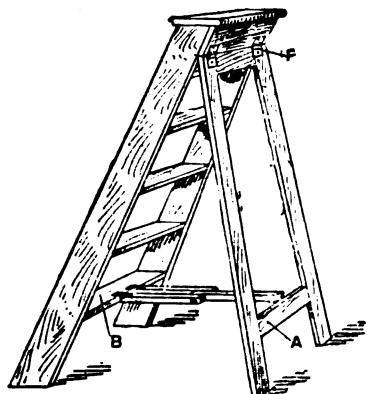
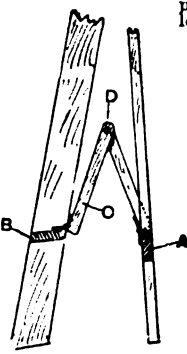
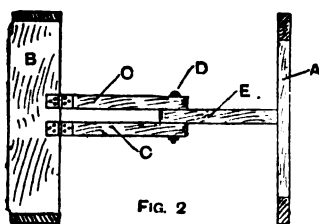

FIG. 1
FIG. 3
FIG. 2
**Safety Stretcher for a Stepladder.**—Usually the back and front legs of a stepladder are connected by a cord or rope. In this there is an element of danger, for sometimes when the back legs are not fully extended a kick or a push to the ladder will make it collapse and fall, with, perhaps, awkward results to the user. The hinged stretcher here shown prevents the legs from closing while the ladder is in use, and the back legs cannot approach the step portion till the stretcher is raised by hand. In making the stepladder, the top edge of rail A (Fig. 1) must be level with the upper surface of step B. The wood strips of stretcher C (Fig. 2) should be made of the same width as the hinges—say 1-in. table or flap hinges; and the thickness of strips C should be about 1 in. The strips are connected at D (Figs. 2 and 3) by a thin bolt or screw; strip E (Fig. 2) working loosely on the bolt. When the back legs of the ladder are hinged at F (Fig. 1), the necessary distance of the back legs from the steps can be decided upon. Supposing this were 2 ft. 6 in., the length of strips C, to bolt at D, would be half, or 1 ft. 3 in. Care must be taken to allow
**Setting Out Patterns for Table Legs.**—Fig. 1 is a front elevation of a shaped leg for a fancy table cut out of 1½-in. mahogany; Fig. 2 is a side elevation, showing the points from which to strike the circles. In cutting out legs of this description, the best plan is to set out the
the ends of the strips to fit against the edge of step B, as the butting against the step keeps the hinged stretcher from dropping beyond a straight line. The hinges must be fixed as shown in Fig. 2 and 4—that is, on the top surfaces of strip C and step B, and underneath strip, and on inside face of rail A of back legs. It will be seen that when the stretcher is in position the back legs cannot move inward or outward. Of the accompanying illustrations, Fig. 1 shows a view of the stepladder and stretcher; Fig. 2, plan of step and hinged stretcher; Fig. 3, side view of steps and back legs nearly closed; and Fig. 4, side view of stretcher when open.